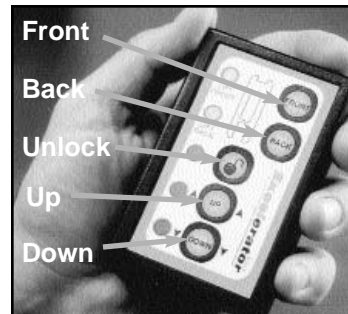

Figure 60
4. If lowering rear of machine, press “back” button on remote control. (See Figure 60.) If lowering front, press “front” button.
2. If raising rear of machine, press “back” button on remote control. (See Figure 60.) If raising the front, press “front” button.